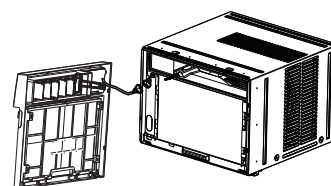

Fig.4
6. Disconnect the connector plug of the display panel from the unit and place front panel to one side (see Fig. 4).